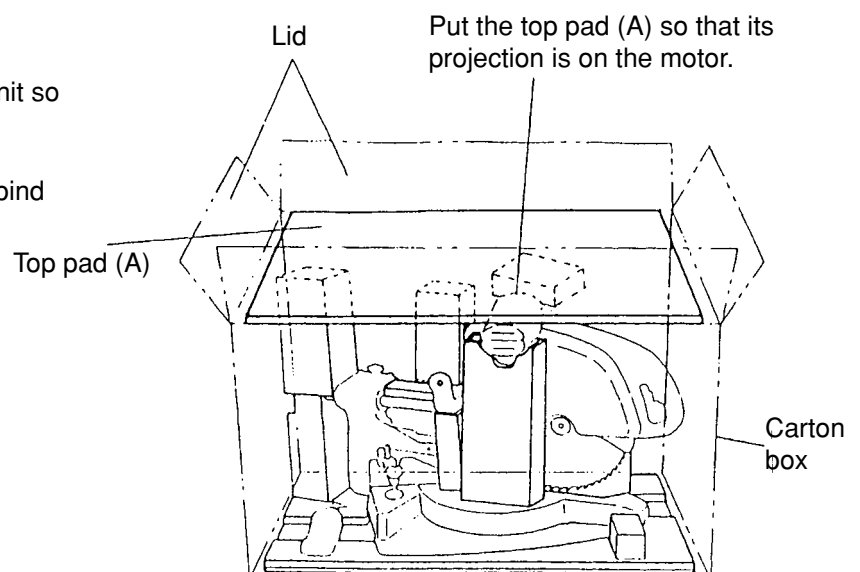

Fig. 58
(6) How to install the top pad (A)
Put the top pad (A) over the whole unit so that its projection is on the motor. Close the lids of the carton box and bind them together. (See Fig. 58.)